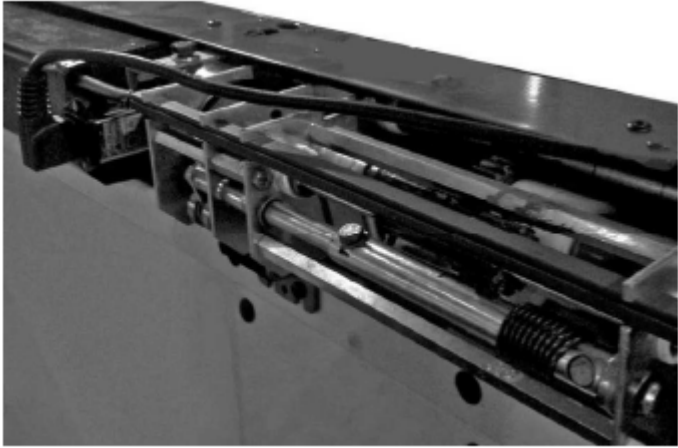

Figure 4-9
- 1) Remove the central carter of the crossbar and locate the Combimatic actuator (fig. 4-9);